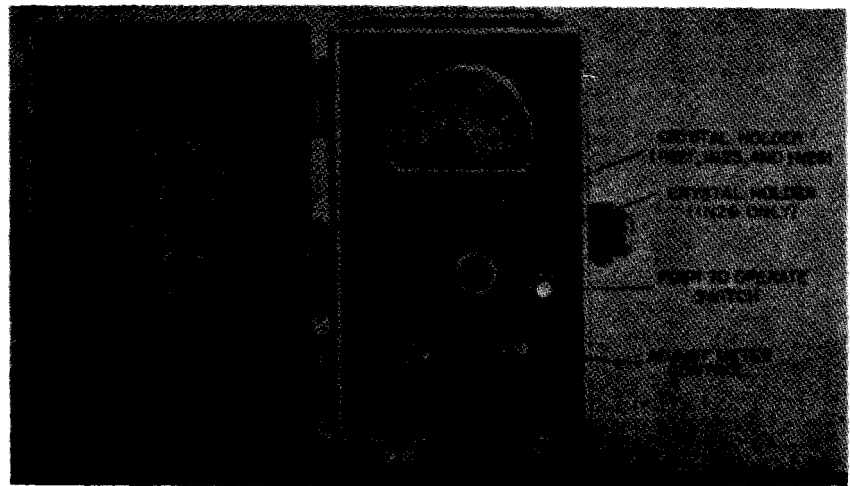

Figure 9.1. (Added) Crystal Rectifier Test Set TS-268E/U, front panel.
*a.* Crystal Rectifier Test \* \* \* the front panel. Crystal Rectifier Test Set TS-268E/U, however, has two crystal socket holders on the front panel (fig. 9.1). All circuit components are mounted beneath this panel.
c. *Crystal Holder*. Crystal Rectifier Test Set TS-268/U has a snap-in type crystal holder. Crystal Rectifier Test Sets TS-268B/U, TS-268C/U and TS-268D/U have insert type crystal holders. Crystal Rectifier Test Set TS-268E/U has two crystal holders. One holder is a snap-in type equipped with a trip lever to facilitate removal of crystals. The other holder is a coaxial type holder for testing 1N26 crystals only (fig. 9.1).